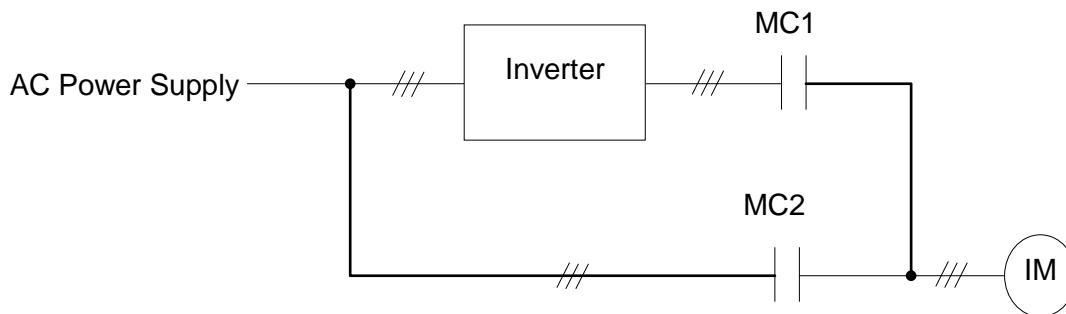

Figure 4.3.119 Diagram of a single cycle mode inverter pump
- The following examples are the timing chart of switching relays on and off in cycle modes. Set 24-00=1, 24-06=0, enable the PID function and Relay 1 to Relay 4 on the 1 to 8 pump card. Fig 4.3.119 is the timing diagram of cycle mode operation; please refer to Appendix A for a detailed wiring of the system.